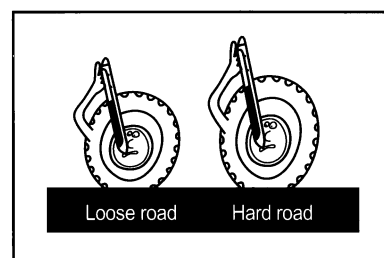

Figure 2-22
- If the tyres explode, the explosion itself will throw the wheel hub, tyres, driving axle and other components 500m or more far away from the machine. And explosion and its partials will cause server damage and healthy injury, so the tyres pressure must be maintained at normal pressure range. Never inflate the tyres beyond its rated pressure range. (Figure 2-22)